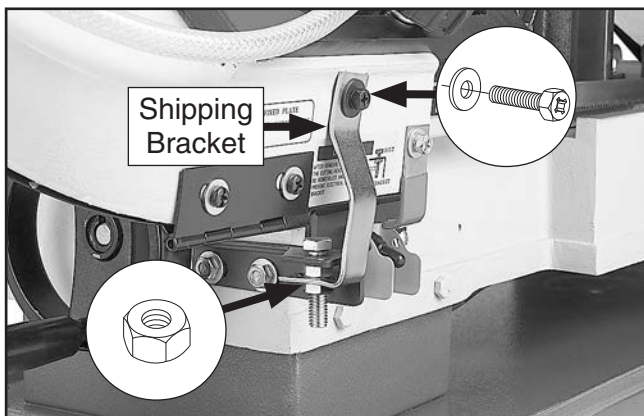

Figure 14. Location of shipping bracket and fasteners.
1. Remove hex bolt, flat washer, and hex nut shown in **Figure 14** to remove shipping bracket.